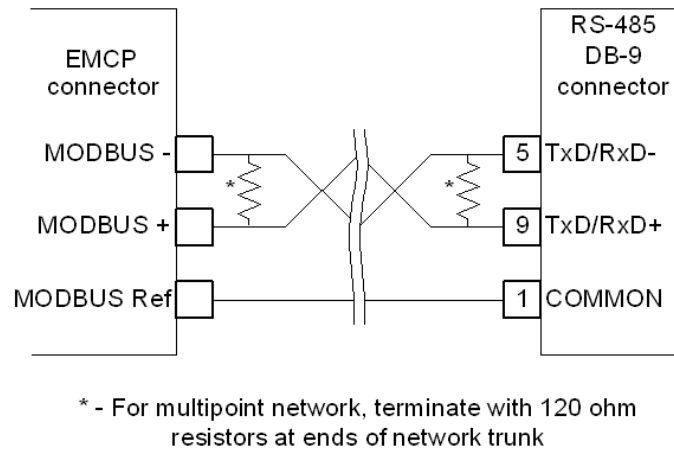

Figure 63: Possible Wiring Configuration To An RS-485 Device
- Figure 63 shows a possible wiring configuration to a RS-485 device.